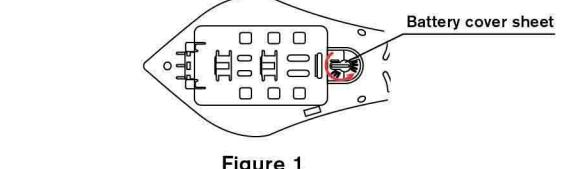

Figure 1
- Rotate the battery cover sheet to the largest position as the arrow (anti-clockwise) direction and open the battery bin. (As Figure 1 Shown)
In order to strengthen the effect of video feedback, the user should remove the antenna from the video module shell when using, making the antenna be vertical to the ground (such as Figure 1). Put the antenna back to the slot of module shell after the flying.